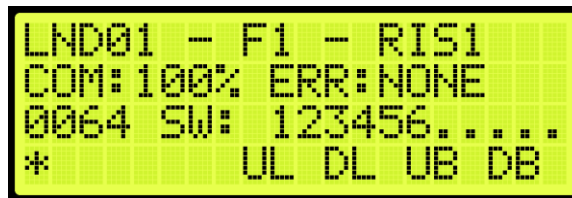

Figure 379: Hall Board Status for the 64th Landing
2. From the Hall Security menu, scroll up or down to view the floors that are set for hall security (See Figure 379).